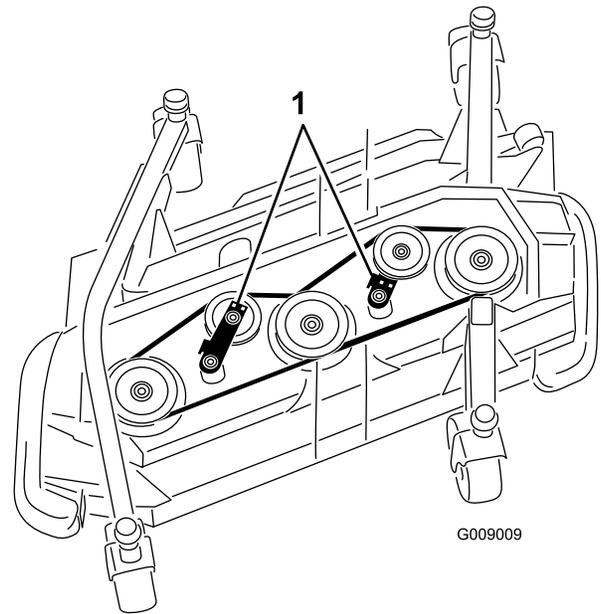

Figure 127
- Using a ratchet wrench or similar tool, move the idler pulleys away from the drive belt to release the belt tension and allow the belt to slip off the pulleys (Figure 127).